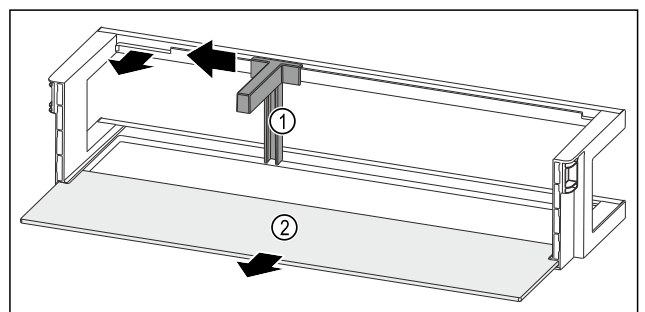

Fig. 237 Door rack with bottle holder and shelf
- ▶ Slide the bottle holder Fig. 237 (1) to the side as far as the recess.
- ▶ Remove the bottle holder Fig. 237 (1).
- ▶ Remove the shelf Fig. 237 (2).